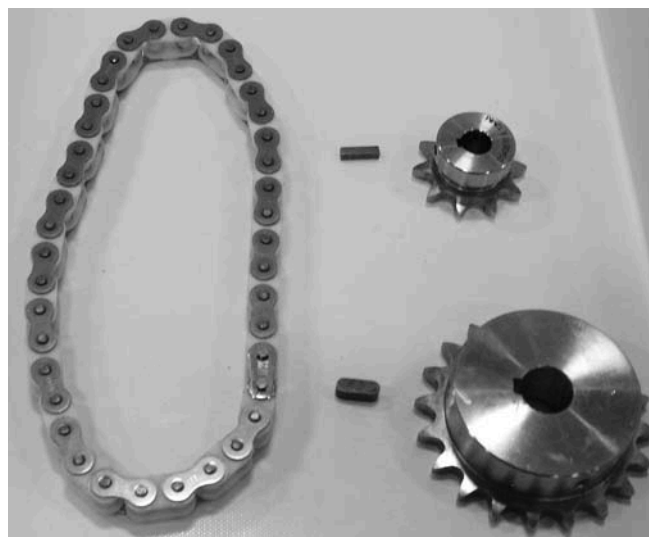

Figure 61
7. Replace components, as needed (**Figure 61**).